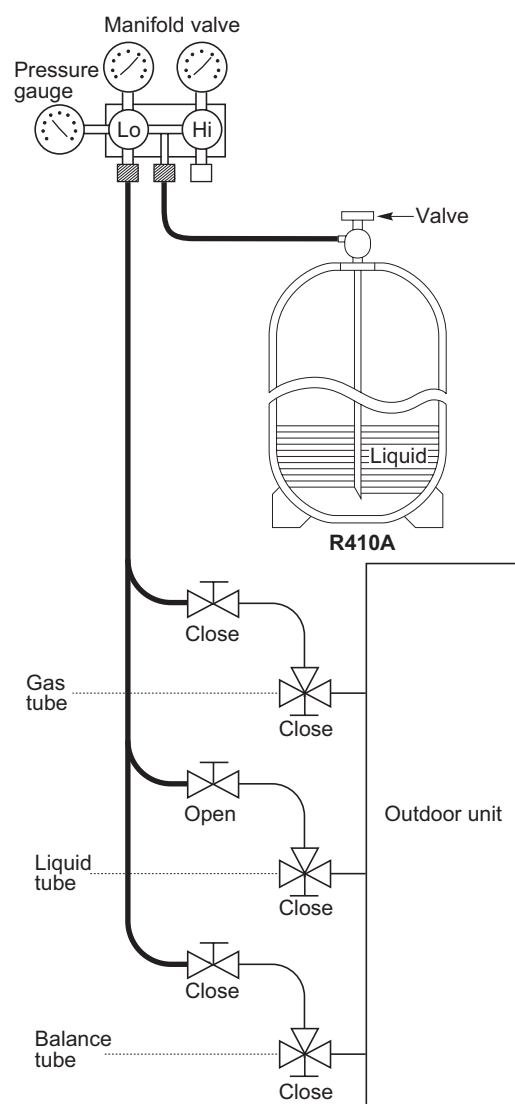

Fig. 2-292
- Charging additional refrigerant (calculated from the liquid tube length as shown in Section “1-8. Additional Refrigerant Charge”) using the liquid tube service valve. (Fig. 2-292)